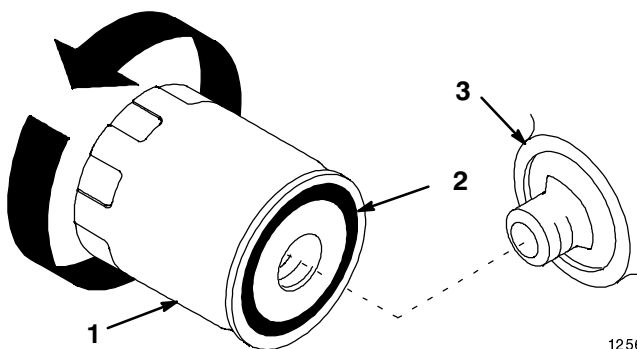

Figure 31
6. Change oil filter (Fig. 31).
2. Remove the old filter and wipe the filter adapter (Fig. 31) gasket surface.
3. Apply a thin coat of new oil to the rubber gasket on the replacement filter (Fig. 31).
4. Install the replacement oil filter to the filter adapter. Turn the oil filter clockwise until the rubber gasket contacts the filter adapter, then tighten the filter an additional 1/2 turn (Fig. 31).